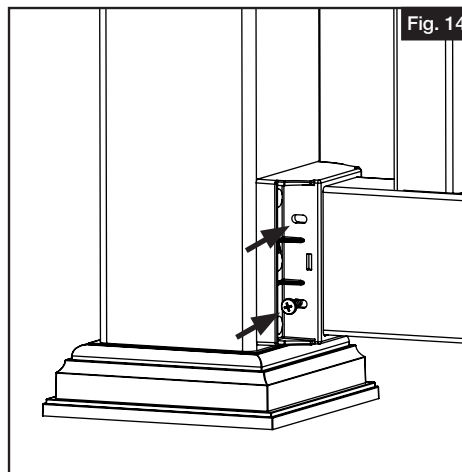

Fig. 14
- b. Install #10 x 1" screws in all pre-drilled holes (Fig. 14).